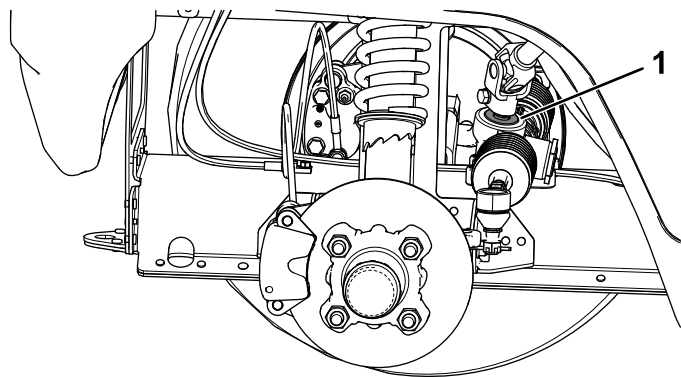

Figure 49
- **Important:** Inspect the condition and security of the pinion-shaft seal (Figure 49).